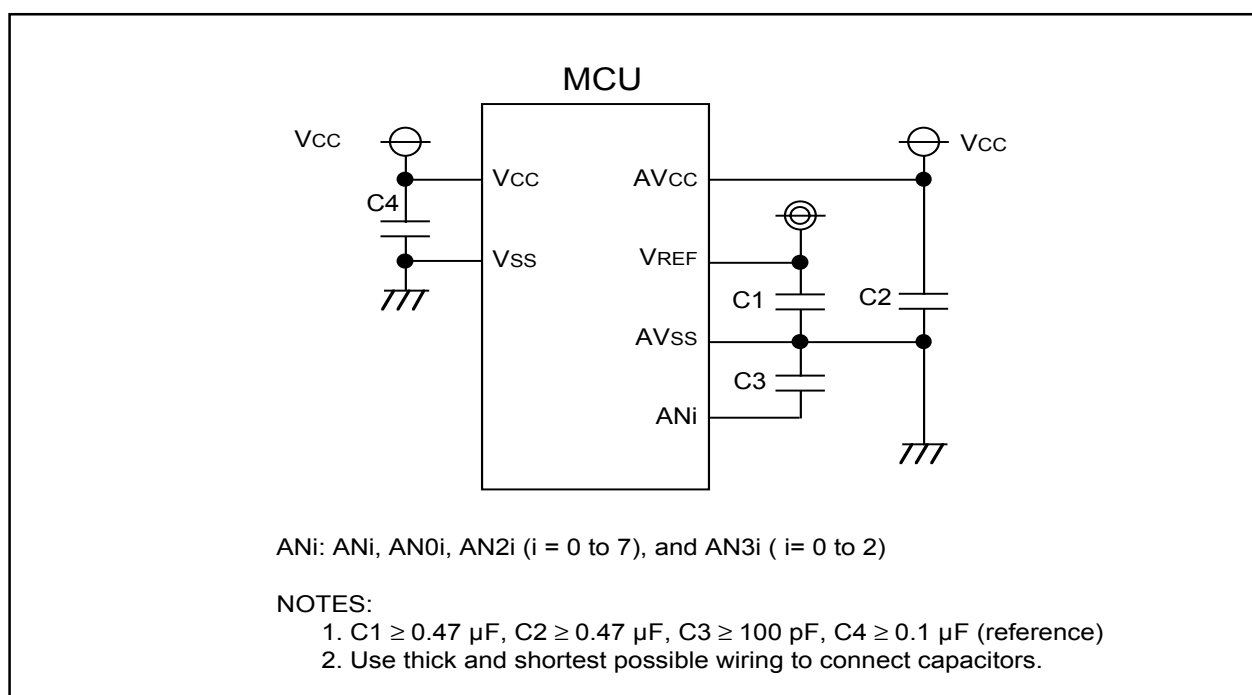

Figure 21.5 Use of capacitors to reduce noise
3. To prevent noise-induced device malfunction or latchup, as well as to reduce conversion errors, insert capacitors between the AVCC, VREF, and analog input pins (ANi, AN0i, AN2i(i=0 to 7), and AN3i(i=0 to 2)) each and the AVSS pin. Similarly, insert a capacitor between the VCC1 pin and the VSS pin. **Figure 21.5** is an example connection of each pin.